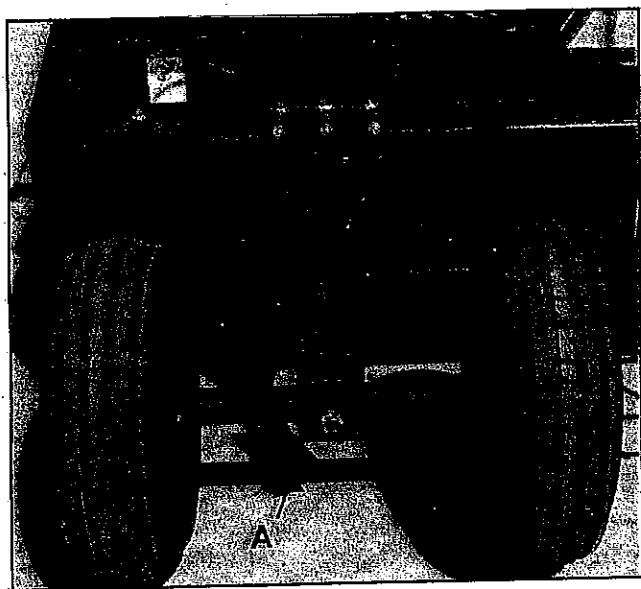
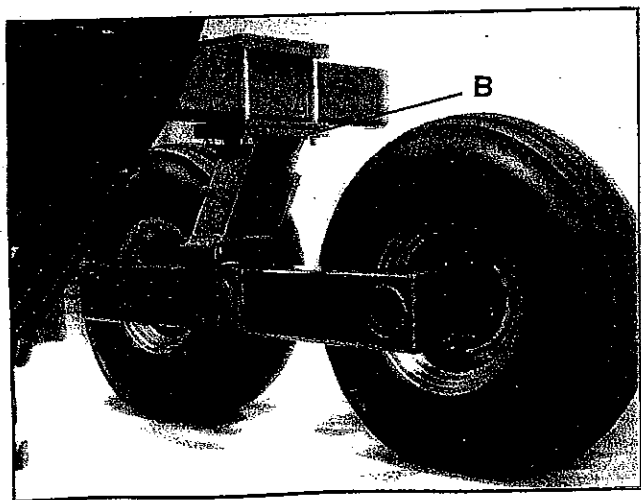

FIGURE 13 - OSCILLATING CARRIER WHEEL
FIGURE 14 - WALKING BEAM CARRIER WHEELS
To level machine on left side, move spindle support bracket (A) (see Figure 13) up or down on oscillating struts. To level machine on right side, use 3/4" spacers (B) provided to raise or lower machine as required (see Figure 14).